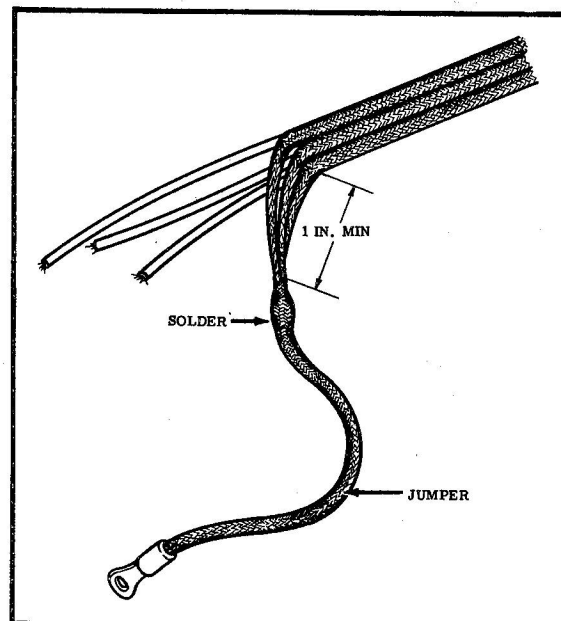

Figure 30 Shielded Wire Soldering
- (b) Solder short pigtailed into a longer one, see Figure 30.